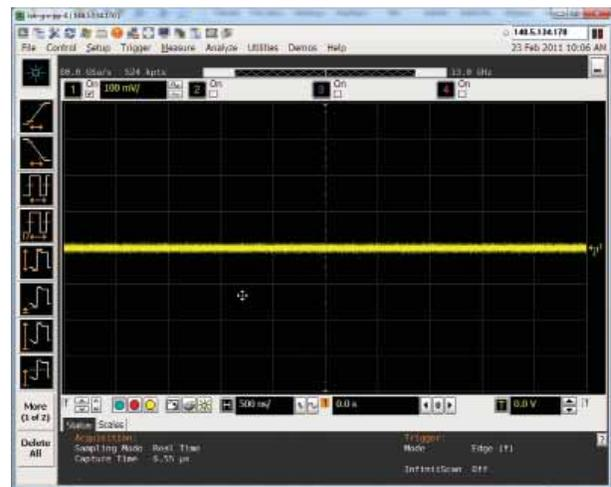

Figure 2. In this example, the sample rate is 80 GSa/s
5. Change the time scale to 500 nS/div. Note that each vendor does this differently. Ensure that the sample rate is held constant (Figure 2).